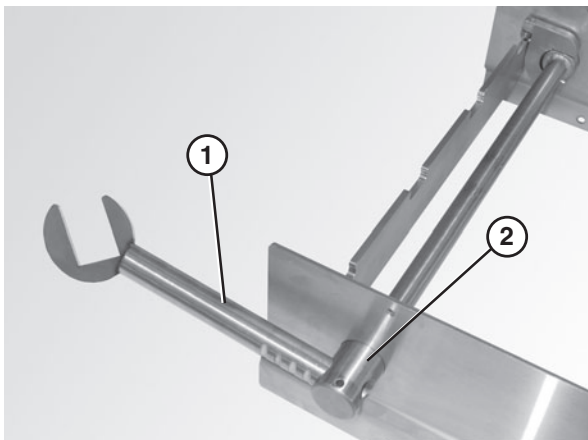

Figure 14
3. Attach the nose bar idler shaft hands (Figure 14, item 1) to the tip up shaft (Figure 14, item 2).